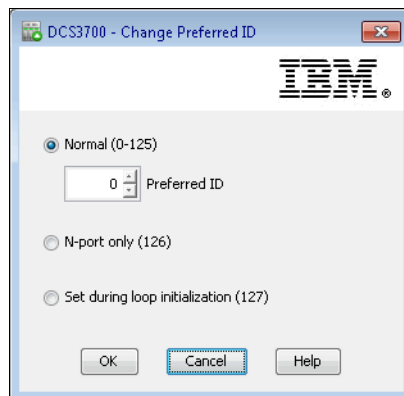

Figure 9-19 Loop ID setting
2. Select the port that you want to change and click **Change Preferred ID**. The window that is shown in Figure 9-19 opens.